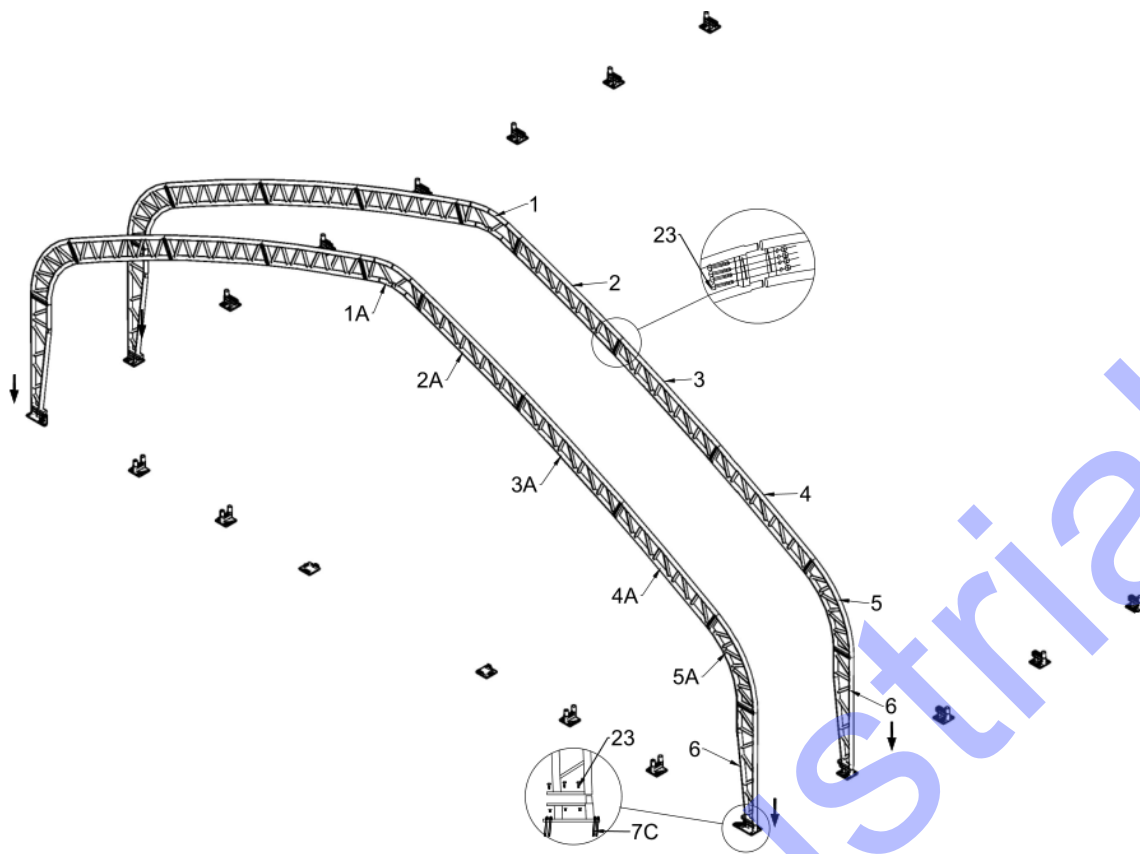

Figure 3
1. Figure 3 shows to connect the Top roof tube (No.1/No.1A), Upper curving tube (No.2/No.2A), Middle curving tube (No.3/No.3A), Lower curving tube (No.4/No.4A), Sidewall curving tube (No.5/No.5A) and Standing leg (No.6) with Bolt M12x40 (No.23), which makes in one arch, then put the arch into tube of Base plate by Hoist, and assemble every group of arch by turns. (see Figure 3). **Do not install the bolts on top of the truss where the fabric will rest.**